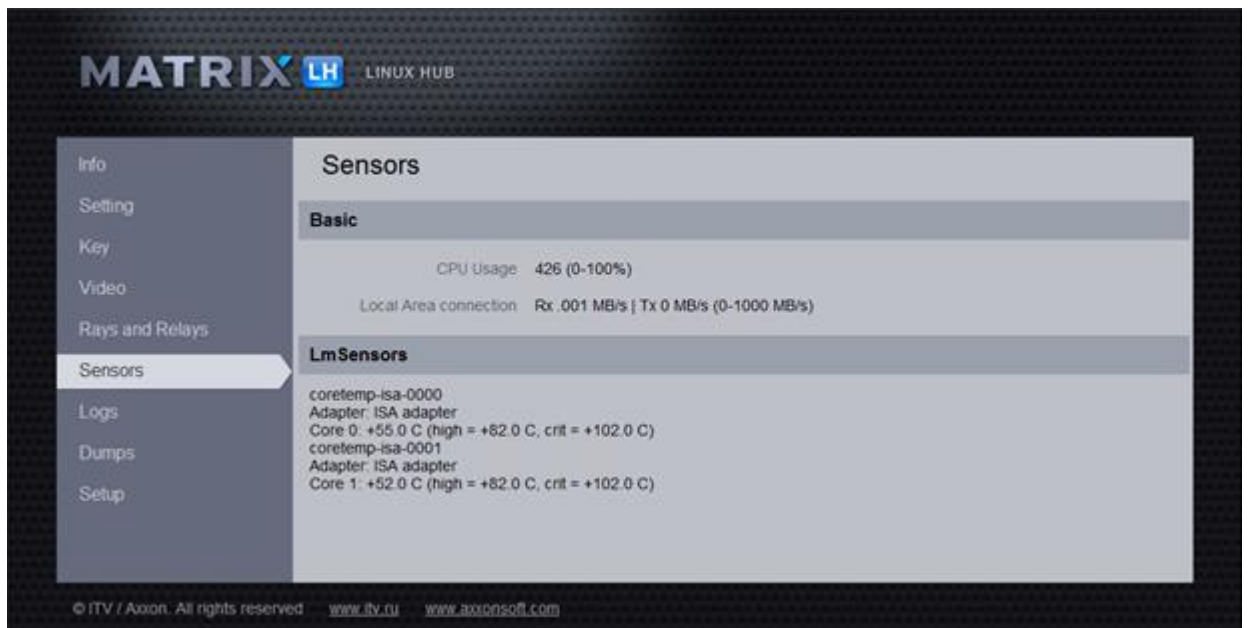

Figure 7.3-4 Monitoring the system operability (Sensors tab)
The **Sensors** tab allows monitoring the operability of the LS (LH) (Figure 7.3-4).